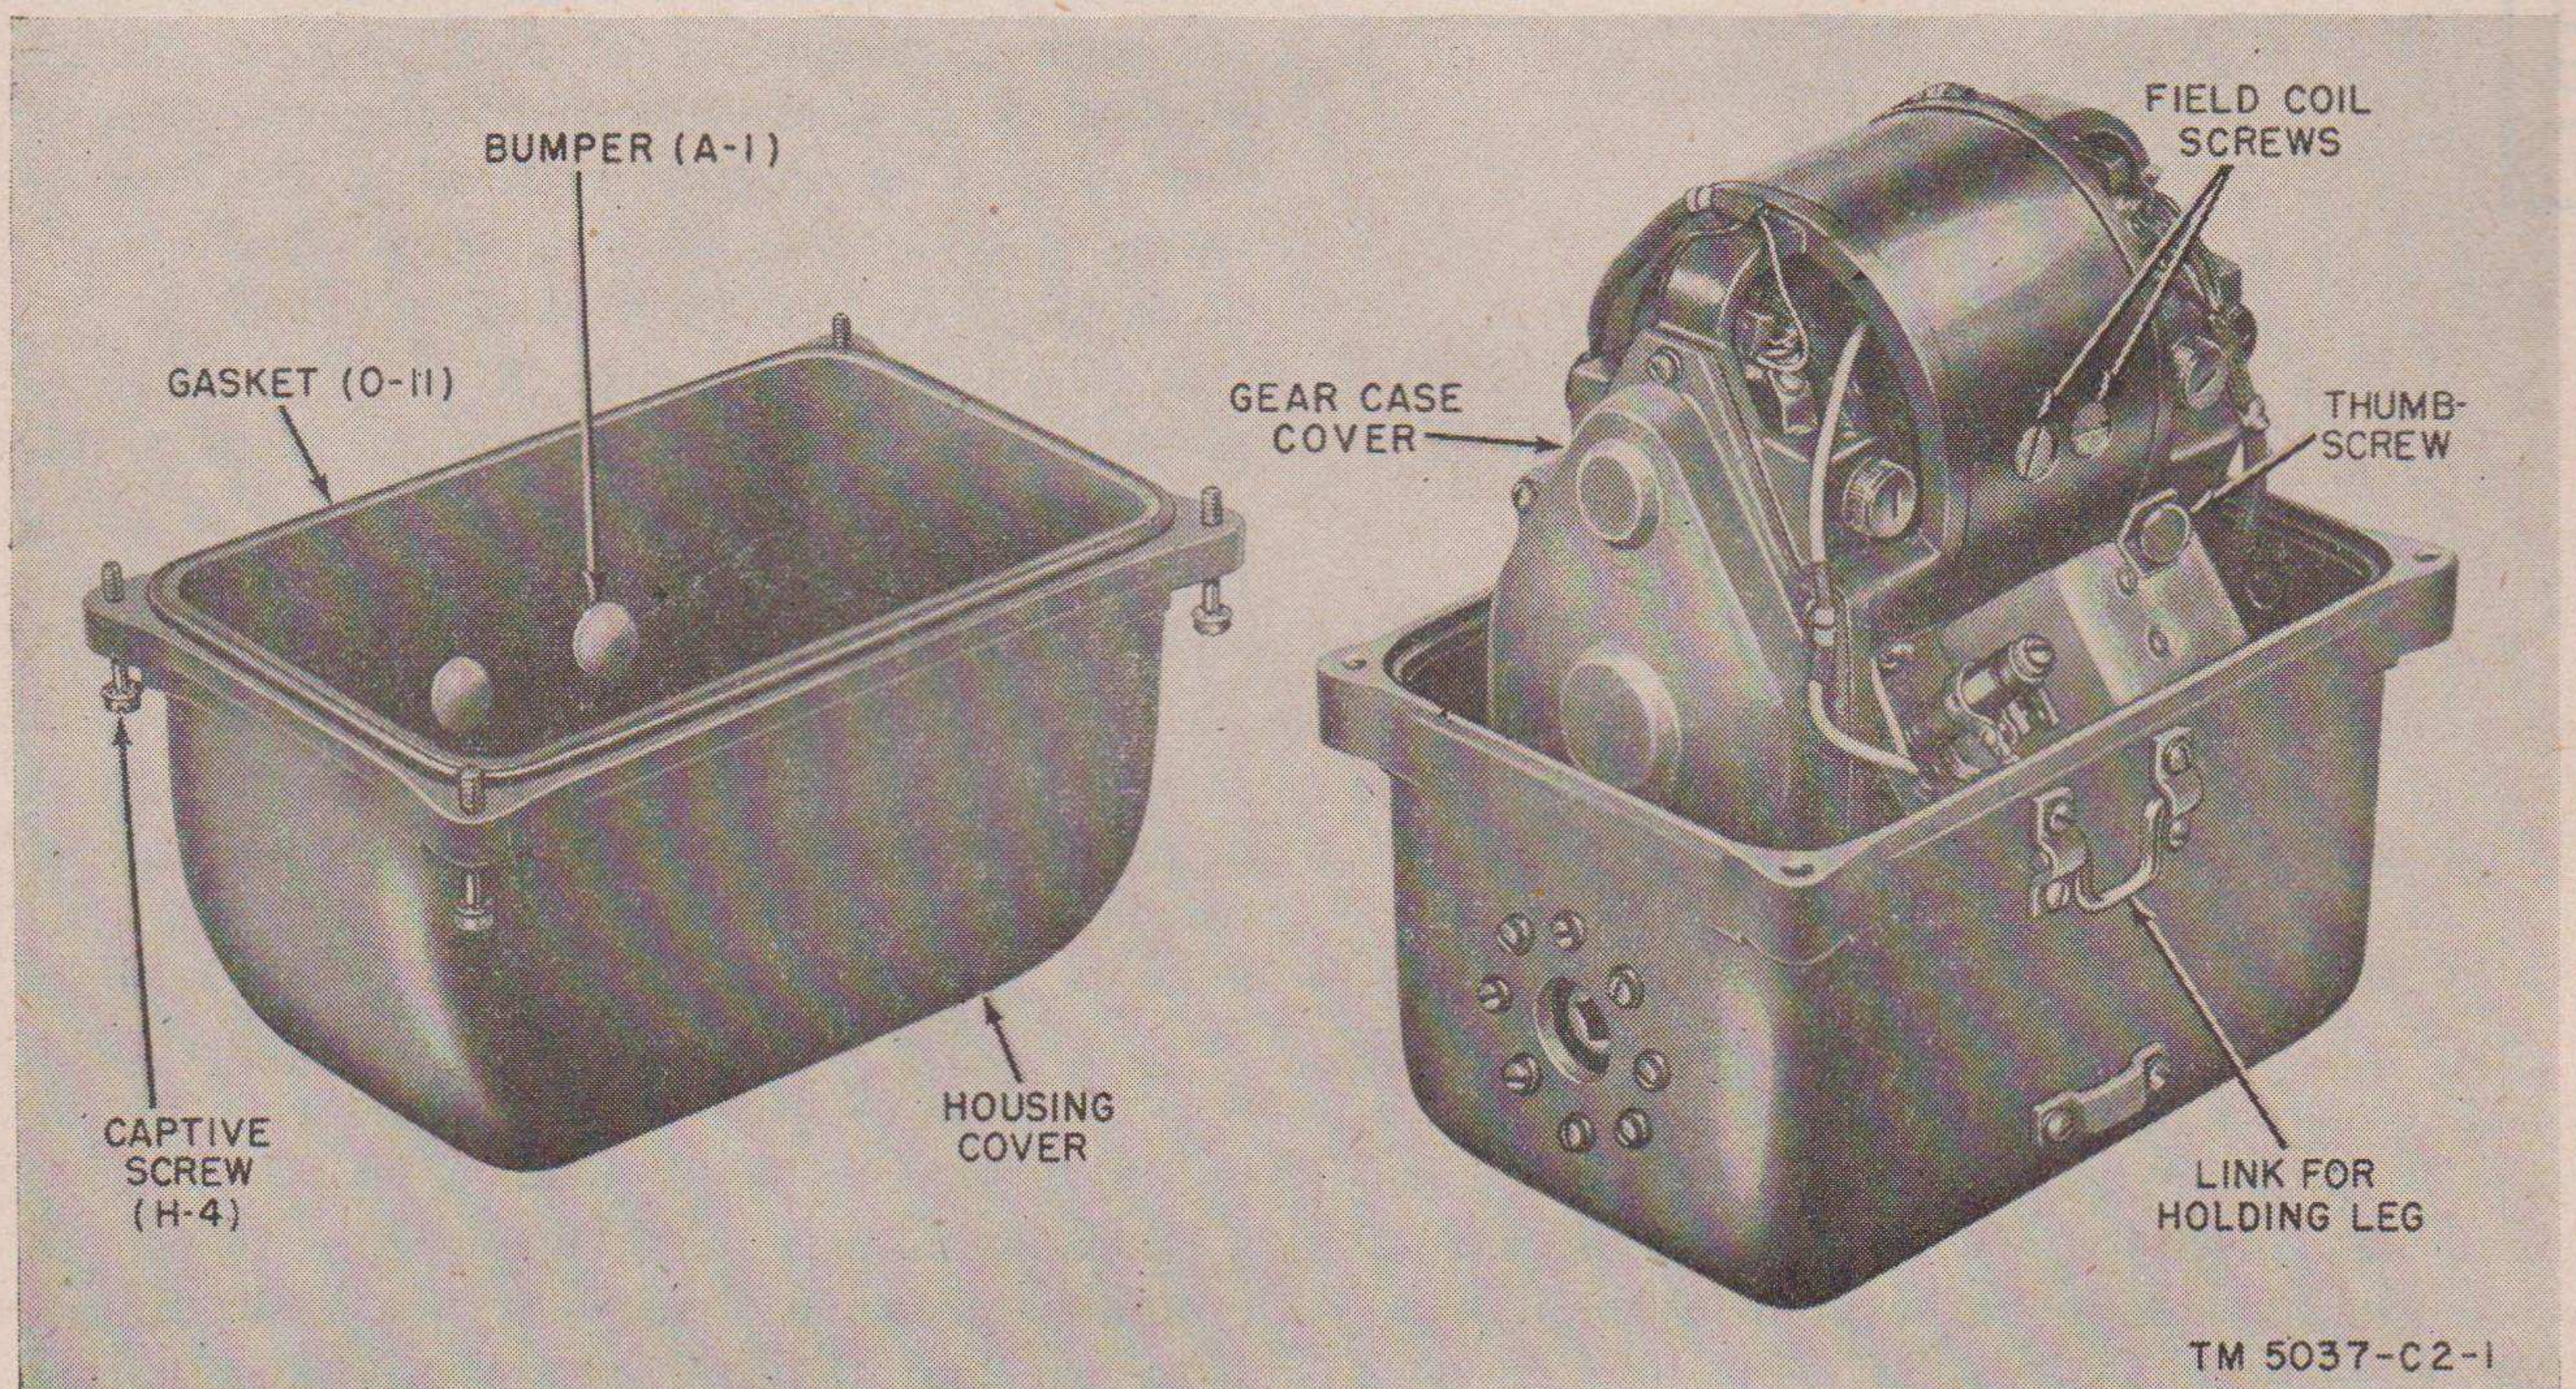

Figure 5.1 (Added). Generator G-8A/GRC, top cover removed.
e. For the location of parts refer to figures 5, 6, and 7 for Generator G-8/GRC and figures 5.1, 6.1, 6.2, and 7.1 for Generator G-8A/GRC. Refer to paragraph 47 for disassembly instructions.